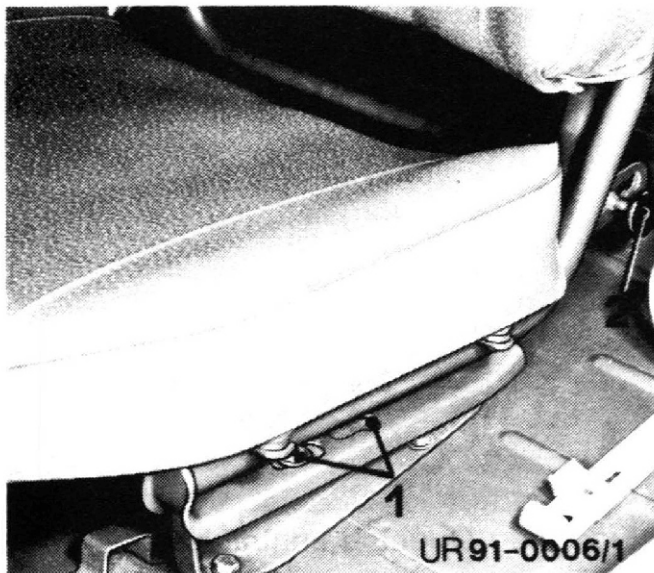

Figure 8 Seat adjustment, 404.1
To adjust backrest press button (2), figure 8.